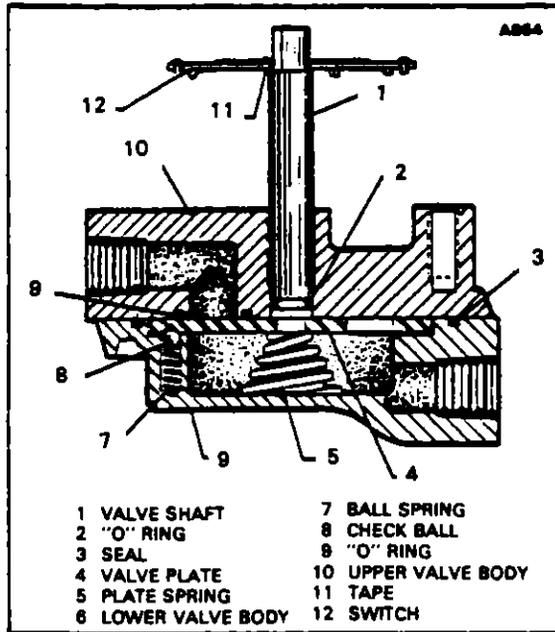

FIGURE 8-12. FIVE POSITION FUEL VALVE
8-15. Servicing Five Position Fuel Valve (Hoof). (PA-24-250 and PA-24-260) Normally the five position valve need only be serviced when there are indications of binding or leakage around the valve shaft (1, Figure 8-12), at the mating surface of the upper valve body (10) and lower valve body (6) or if reason to believe that there is leakage through the valve when in an off position. Replacement of "O" rings will usually correct this condition
b. Check the shaft hole of the valve body (10) where the "O" ring (2) makes contacts for roughness that might damage the "O" ring. Polish the hole surface to remove any roughness.
d If fuel selector switches are installed, connect wiring and carefully slide the main switch (12, Figure 8-12 or 8-13) on the valve shaft (1). Should the main switch fit loose on the valve shaft, shim the flat of switch hole with 1/4 x 7/16 pressure sensitive adhesive tape (11), Spec. PPP-T-60B, Type III, Class I.